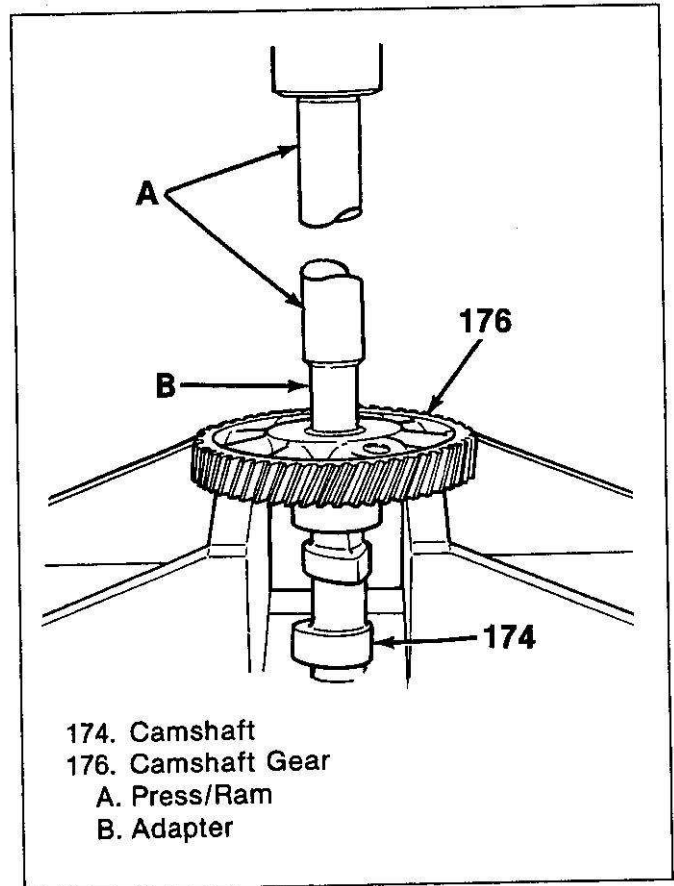

Figure 95. Removing the Camshaft Gear
1. Remove the bolt (177) and washer (175).
2. Remove the camshaft gear (176).
- Support the camshaft gear (176) in a press (figure 95).
- Press the camshaft (174) out of the camshaft gear (176).
3. Remove the thrust plate (178).
4. Remove the key (179).